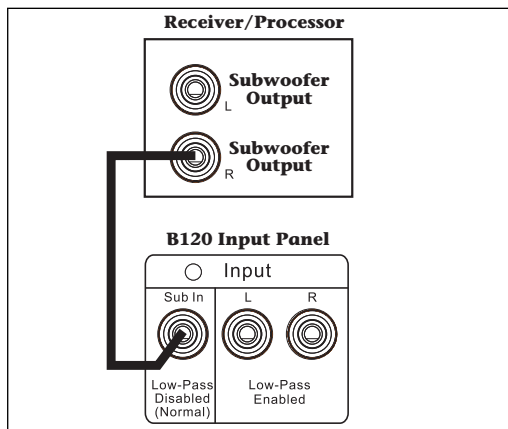

Figure 12: Typical connection with multiple subwoofer outputs
2. Connect the supplied RCA patch cable from one of the Subwoofer or LFE outputs on the processor/receiver to the Sub In connector on the B120 rear panel, as shown in Figure 12.